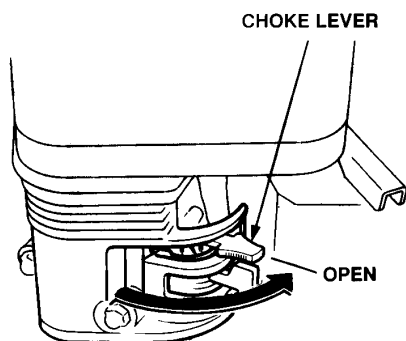

Figure 39. Choke Lever Open
4. Place the **choke lever** (Figure 39) in the "**OPEN**" position.